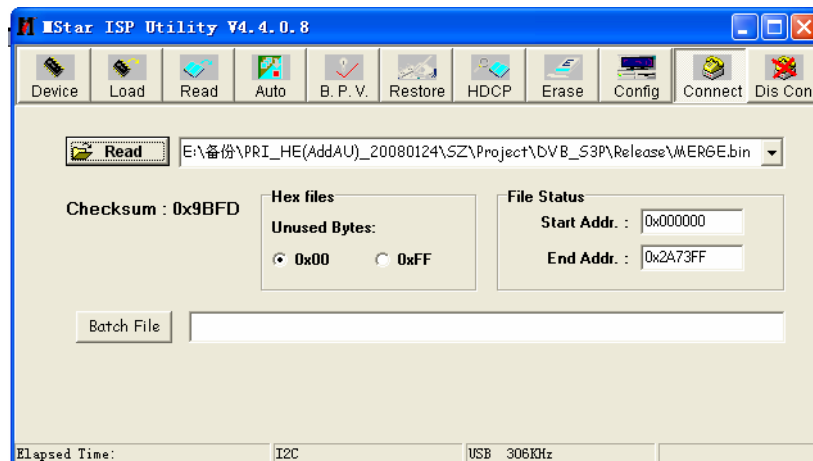

Fig. 4 Choosing upgrading file
- 4) Press “Read”, choose upgrading file, such as “MERGE.bin”; please refer to Fig. 4;
6) Press “Run” shown as Fig. 4 to perform upgrading in two steps, “Erase” and “Program”;